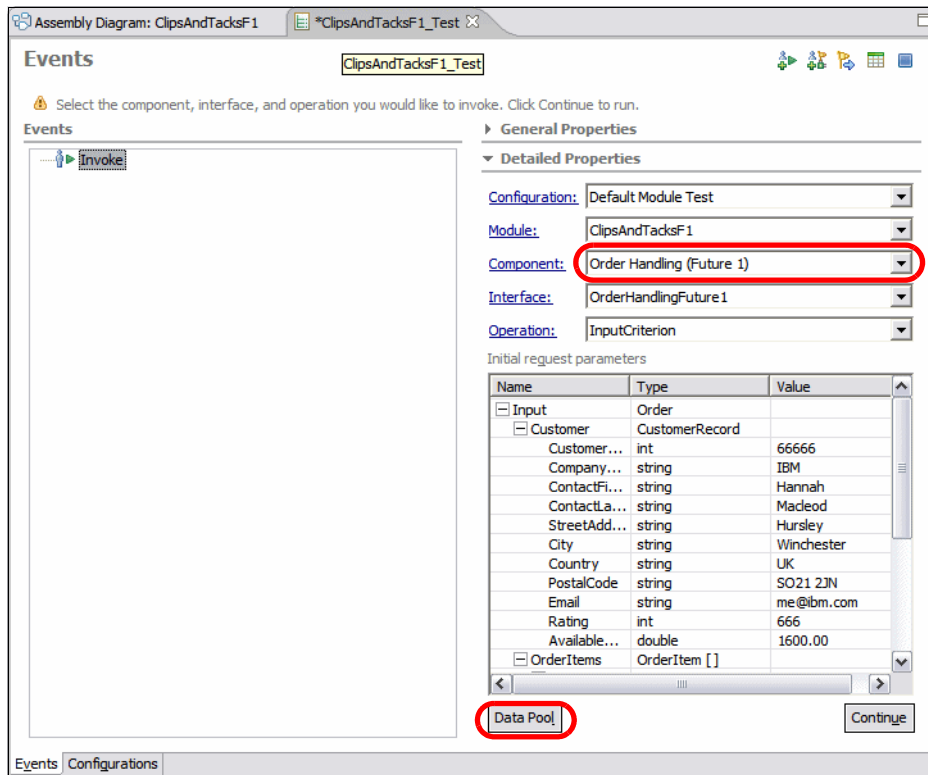

Figure 10-32 Testing: Input data
- ▶ From the Business Integration perspective, select the `ClipsAndTacksF1` project and *Test* → *Test Module* (context menu). The `ClipsAndTacksF1_Test` panel opens (Figure 10-32).